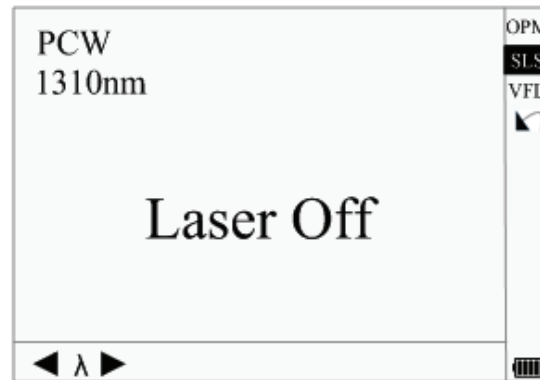

Figure 4-12. Stabilized Laser Source
1. Enter PM/LS interface as described in "Power Meter, Laser Source, and VFL Configuration" in Section 3. Use ▲ and ▼ to highlight "SLS", and press Enter to enter SLS interface (Figure 4-12).